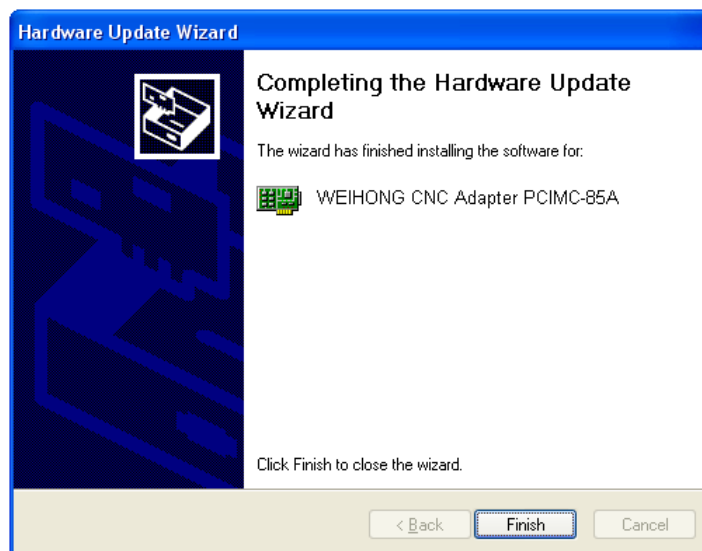

Fig. 2-14 Driver update completed
- 9) When the updating is finished, a dialog as shown in Fig. 2-14 will pop up. Click [Finish] to complete the update of the hardware driver. Double click the icon  on the desktop or click the icon on the menu "Start→All Programs" can launch the software successfully.